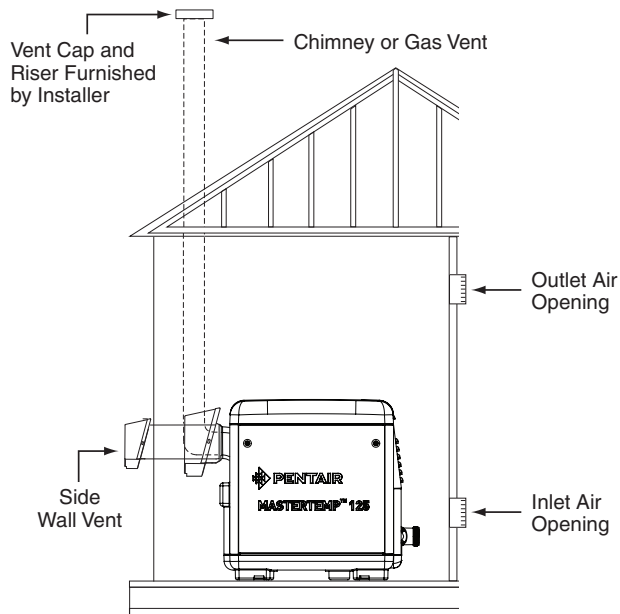

Figure 22
HORIZONTAL OR VERTICAL VENTING - USING SINGLE-WALL STAINLESS GAS VENT (SEE FIGURE 22, 23, & 24 ON PAGE 19)
6. **Vent Termination – Vertical** (See Figure 22, 23, & 24), for height of vent termination above the roof. Use an "Approved" vent terminal specified by local and national codes and your manufacturer's instructions. A roof termination must be vertical.